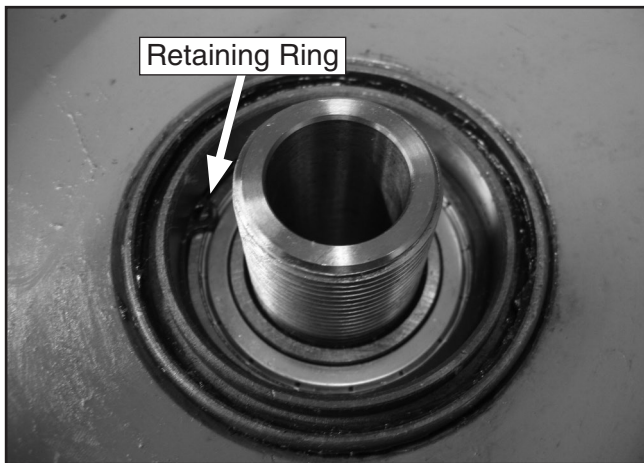

Figure 6. Retaining ring location.
7. Remove the internal retaining ring (shown in **Figure 6**) with retaining-ring pliers.